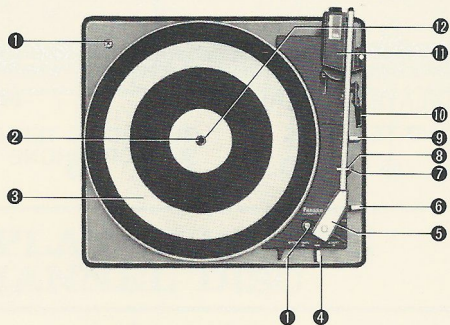

Fig. 1
- (1) Insert the automatic spindle by placing the key on its base into the slot of the turntable shaft, (See Figs. 1 and 2.) Then push the spindle downward and turn clockwise until it stops. Use the 45 rpm automatic spindle in the same manner as the automatic spindle.
- (2) Unclip the pickup clip.
- (3) Rotate the turntable by hand five times to ensure that the mechanism is in the neutral position.
- (4) Check that the speed selector and the size selector are set for the type of discs to be played.
- (5) Place discs of the same speed on the finger of the automatic spindle.
- (6) Move the start lever to the "START" position, and pause for a moment to let the mechanism engage. Then the lever will return by itself to the (⊥) position.
- (7) To reject a disc while the unit is in operation, move the start lever to the "START" position.
- (8) After playing the last disc, the pickup will return to its rest and the unit will shut off automatically.